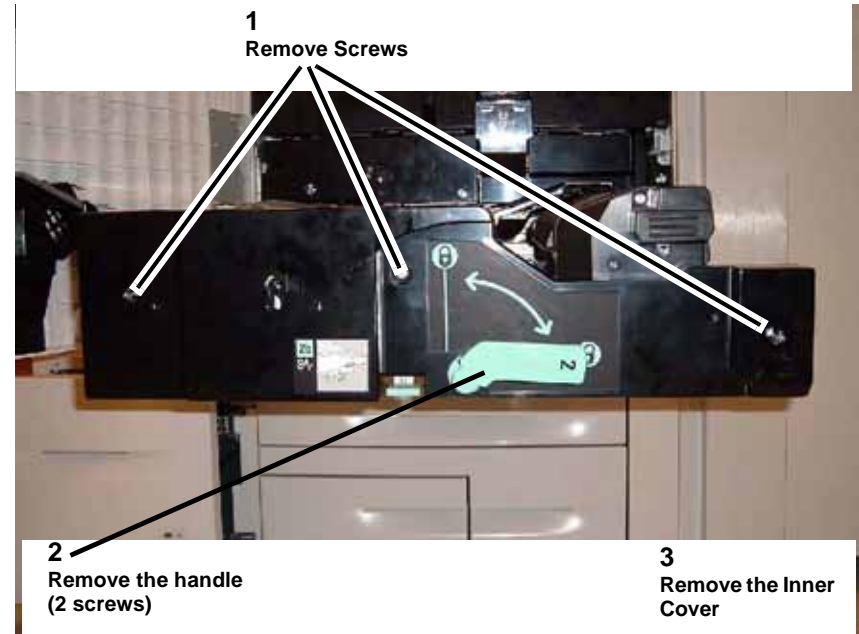

Figure 3 Removing the Inner Cover
4. Remove the Inner Panel (Figure 3).